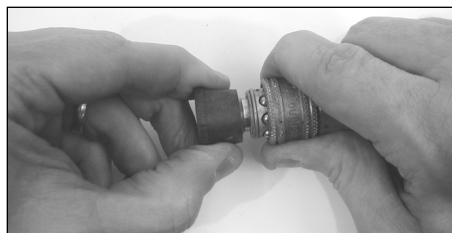

Figure 19 - Quick Connect Tip
- 3b. For units with quick connect tips: use the black 65° quick connect spray tip (See Figure 19).
- 3b. For units with quick connect tips: use the black 65° quick connect spray tip (see Figure 19).